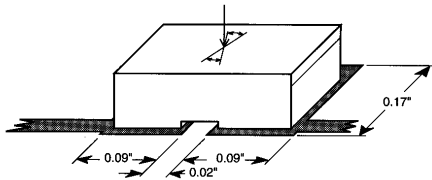

Figure 6B
2. Position the Model 12 accelerometer over the circuit traces (typical metallization on the hybrid substrate is shown in Figure 6B) and press into place with a force not exceeding 1 pound. The resulting bond thickness between the accelerometer and substrate should be approximately 0.001 inch.